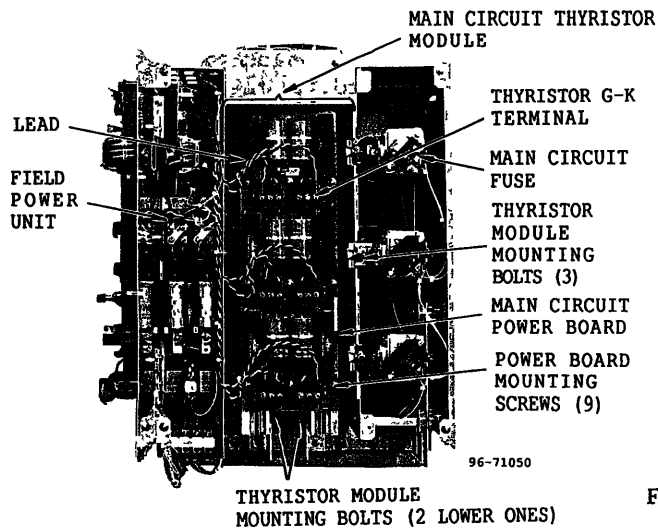

Fig. 20 Main Circuit Thyristor Assembly (230 V, 260 A System)
1. Remove the 6 clamping screws for thyristor gate cathode terminal, and free the leads. In this case, mark the terminals for identification. (Fig. 20)
230 V, 180 to 550 A / 460 V, 180 to 550 A System (Fig. 20)